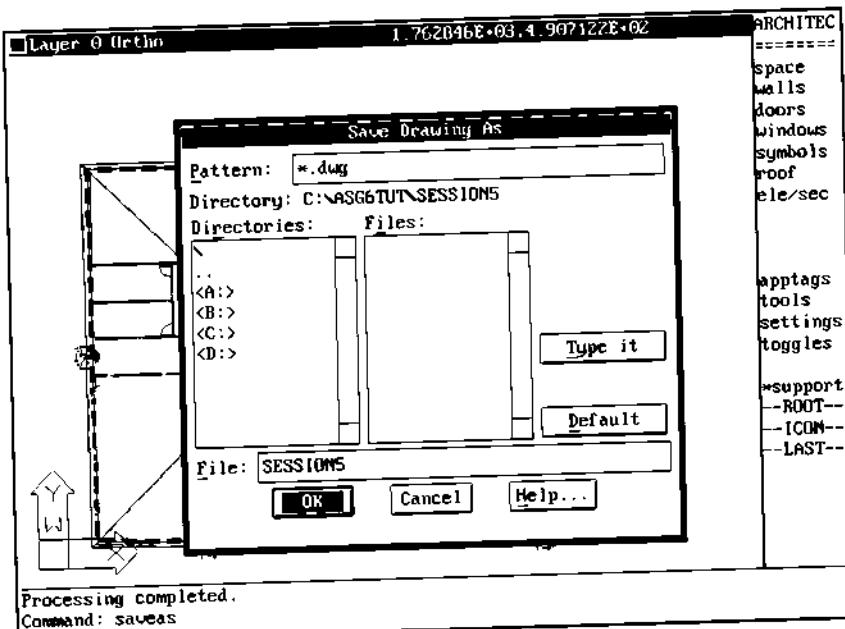

Figure 1.
1. Select Save As... from the File pull-down menu to open the Save Drawing As dialog box shown in Figure 1.
2. Save the SESSION4 drawing in the C:\ASG6TUT\SESSION4 directory to the filename SESSION5 in the C:\ASG6TUT\SESSION5 directory as shown in Figure 1.